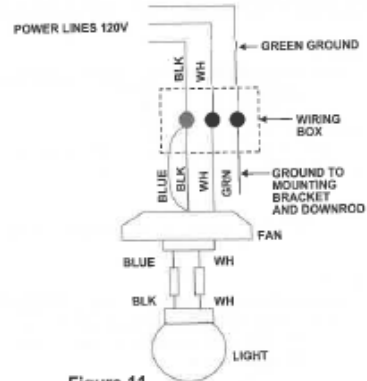

Figure 11
**STEP 1.** Connect the fan supply (black) wire and light supply (blue) wire to the black household supply wire as shown in Figure 11.